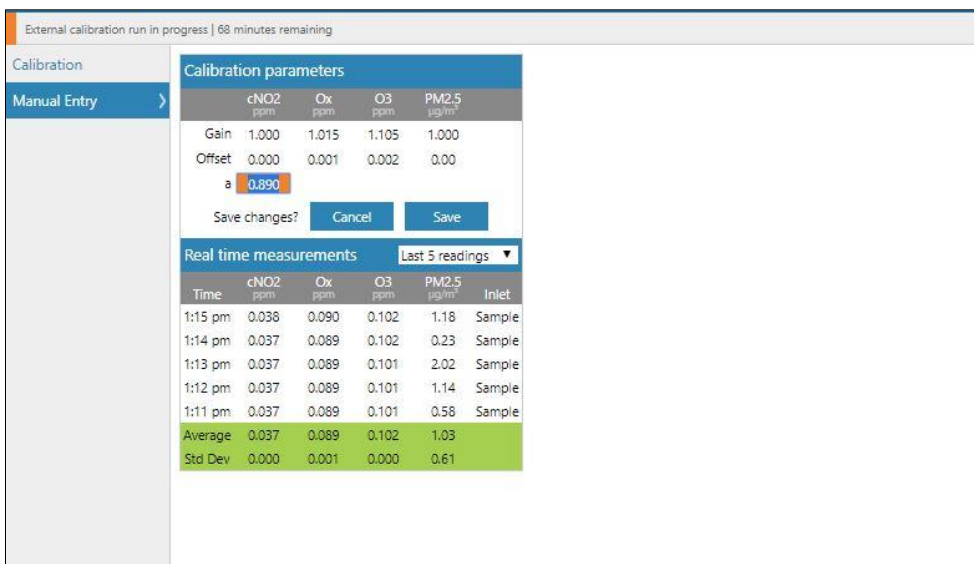

Figure 7-4 The Manual Entry section of the Calibration and Service App is where the gain and offset and the a value on the NO2 module is set.
1. Open the Calibration app, if O_x appears in the parameters and there is data then it is installed. See Figure 7-4. If there is no data, then the module may have been removed but not deleted from the sensor list.